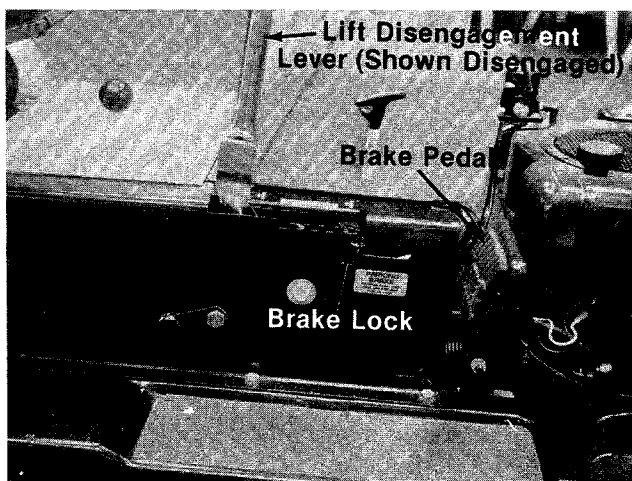

FIGURE 15.
c. **Brake.** The brake pedal is located on the right hand side of the mower and is operated by depressing it with your right foot. See figure 15.
depress the brake pedal and lift up the lock button. The pedal will stay depressed. To release, depress the pedal. See figure 15.
k. **Lift and Disengagement Lever.** It is used to raise the cutting deck. Pulling it all the way back and locking it disengages the blades. The engine will not start unless the lift and disengagement lever is in the disengaged position. See figure 15.
3. Place the lift and disengagement lever in the "DISENGAGED" position. See figure 15.
To stop the blades, move the lift and disengagement lever (figure 15) into the DISENGAGED position. This raises the deck and disengages the blades.